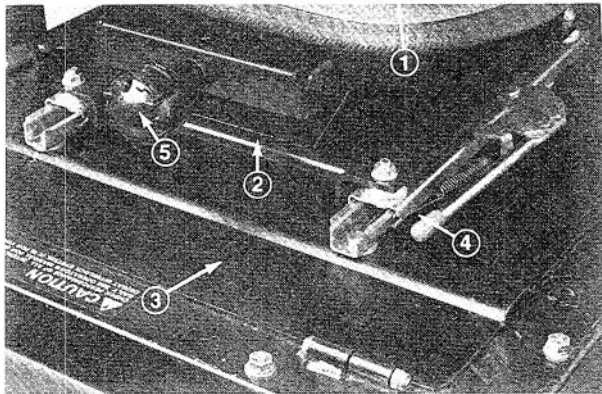

Figure 7
4. Adjust seat for operator's comfort and weight. To adjust seat fore and aft, pull handle on left side of seat assembly outward (Fig. 7). Release handle to lock seat position. To adjust for operator's weight, turn spring tension knob; clockwise to increase tension, counterclockwise to decrease spring tension (Fig. 7).